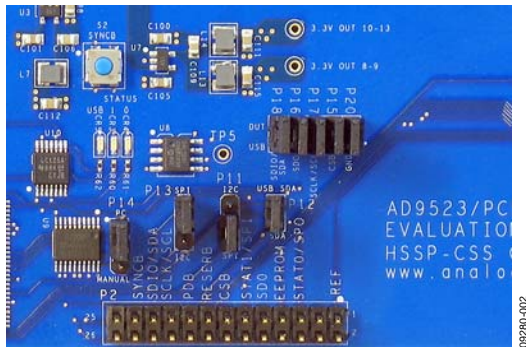

Figure 2. USB and SPI Jumper Connections
The evaluation board is configured for proper PC control and operation. If the jumpers are inadvertently moved, use Figure 2 and Figure 3 to reconfigure the board.
2. Set Jumpers P11 and P13 to the **I²C** position (see Figure 2).